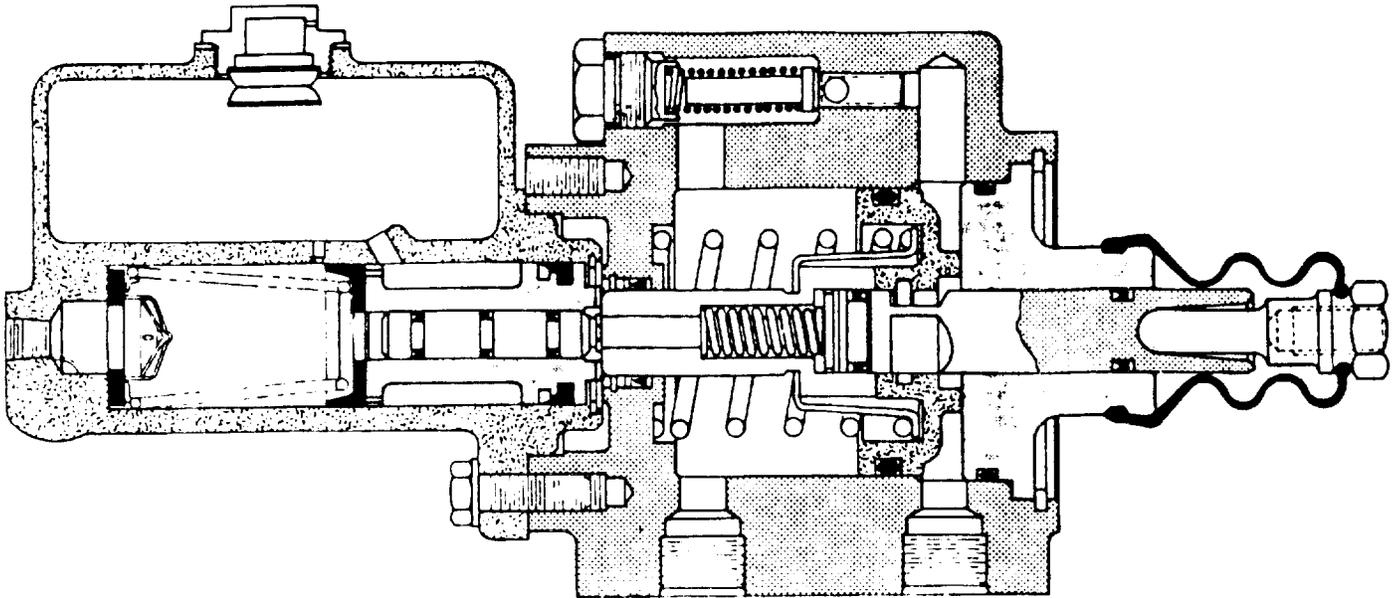

FIGURE 20
1.0 REMOVING BRAKE VALVE FROM VEHICLE AND SEPARATING CYLINDER RESERVOIR SECTION FROM POWER ASSIST SECTION. Refer to Figures 20 & 21.
- 3.0 ASSEMBLY OF CYLINDER RESERVOIR SECTION. Use only brake fluid in Cylinder Reservoir Section. Use Repair Kit No. 02-400-058. Refer to Figures 20 & 22.
- 4.0 DISASSEMBLY OF POWER ASSIST SECTION. Refer to Figures 20 & 23.
Use Repair Kit No. 02-400-059. Refer to Figures 20 & 23.
- 5.16 Install boot (item 19) on end plug (item 21) and push rod (item 18) into boot,
- 6.0 CONNECTING CYLINDER RESERVOIR SECTION TO POWER ASSIST SECTION AND MOUNTING BRAKE VALVE ON VEHICLE. Refer to Figures 20 & 21.